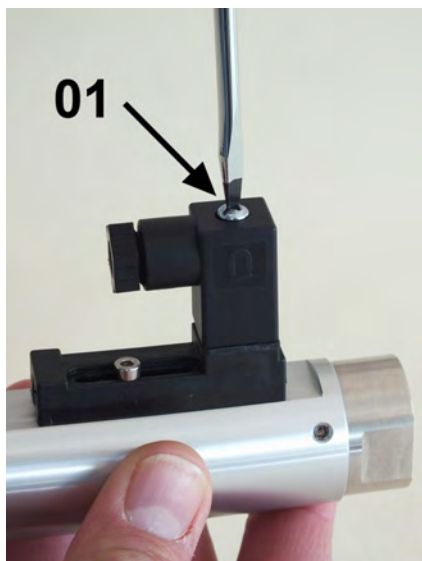

Fig. 53: Loosen female socket
1. ➤ Loosen the fixing screw of the female socket (Fig. 53/01) with a flat-bladed screwdriver.